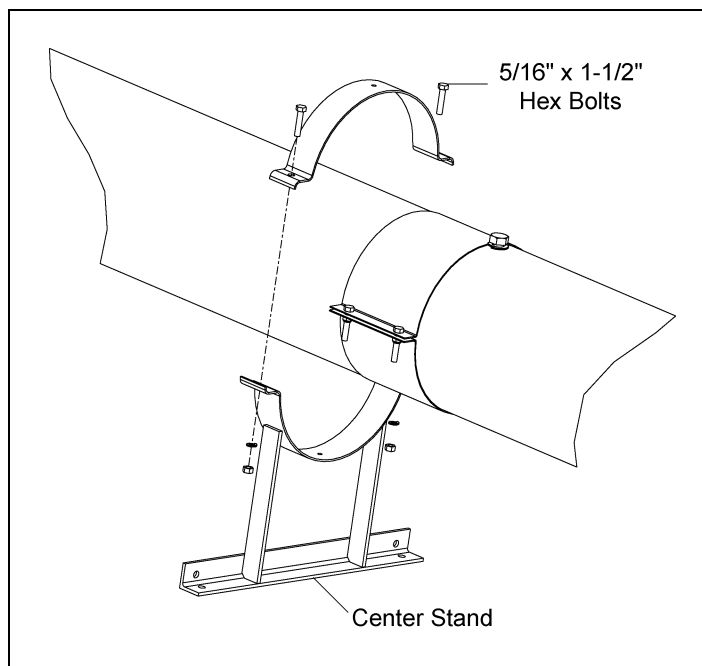

Figure 4U
- C. Install the remaining stand in the center of the tube. Placing the stand in the center of the tube will help minimize vibration in the system when the auger is running. (See Figure 4U)